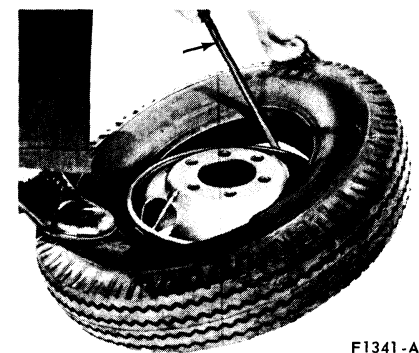

FIG. 10 Installing Tire First Bead on Wheel
- be forced over the safety bead hump and the rim edge (Fig. 10).